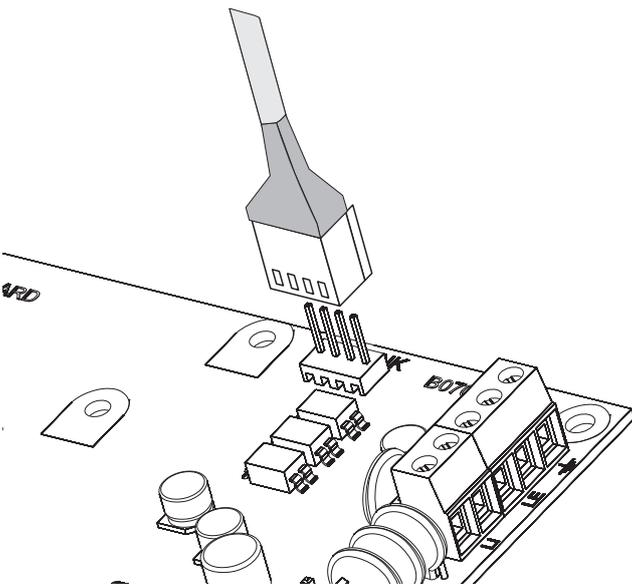

Figure 29 PC-Link connection.
1. Connect the Control Panel RS232 serial port (**10, PC-LINK**) to a free RS232 serial port on the PC using the **PC-LINK** cable (accessory item), as shown on Figure 29.